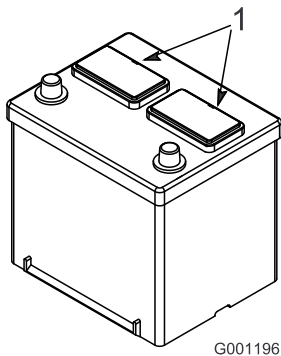

Figure 21
1. Clean the top of the battery and remove the vent caps (Figure 21).